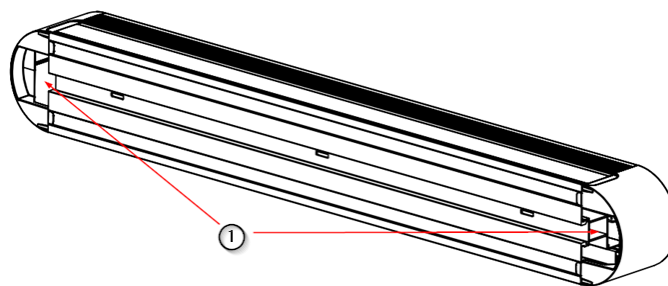

Fig. 1 Equipment supply connections
The connections for the supplies ① of the ICARUS systems enter through the side walls as shown in Figure 1.
- Using a flat-nosed tool, remove the top and bottom covers ② as shown in figure 1, taking care not to scratch other areas of the enclosure, and leave them in a safe place.
- Place the upper and lower covers ② back on the device by pushing them into position and pressing them together until the clipping sound is heard.